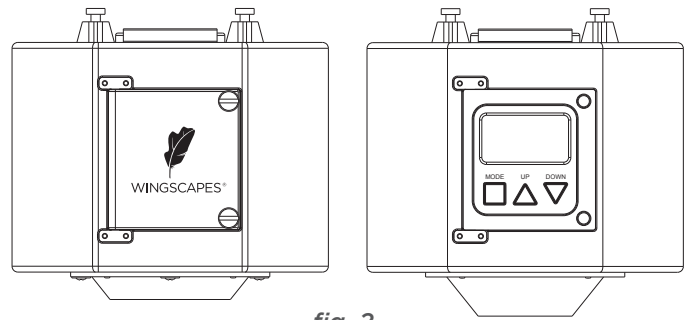

fig. 2
8. Loosen the 2 metal thumb screws and open the timer door (fig 2).